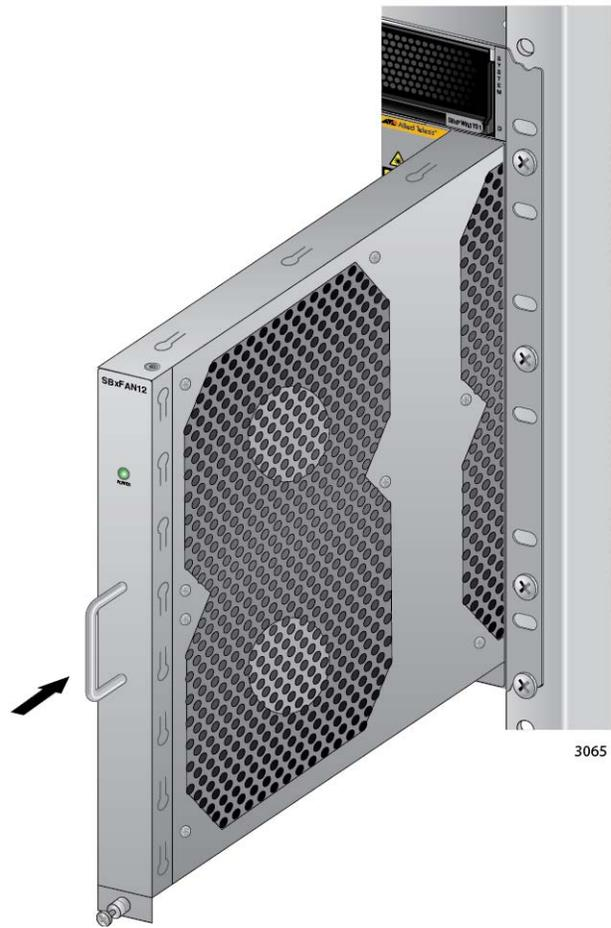

Figure 173. Installing a New AT-SBxFAN12 Fan Module
1. Orient the new module with the LED and module name on top and carefully slide the new module into the slot in the chassis. Refer to Figure 173 on page 268.